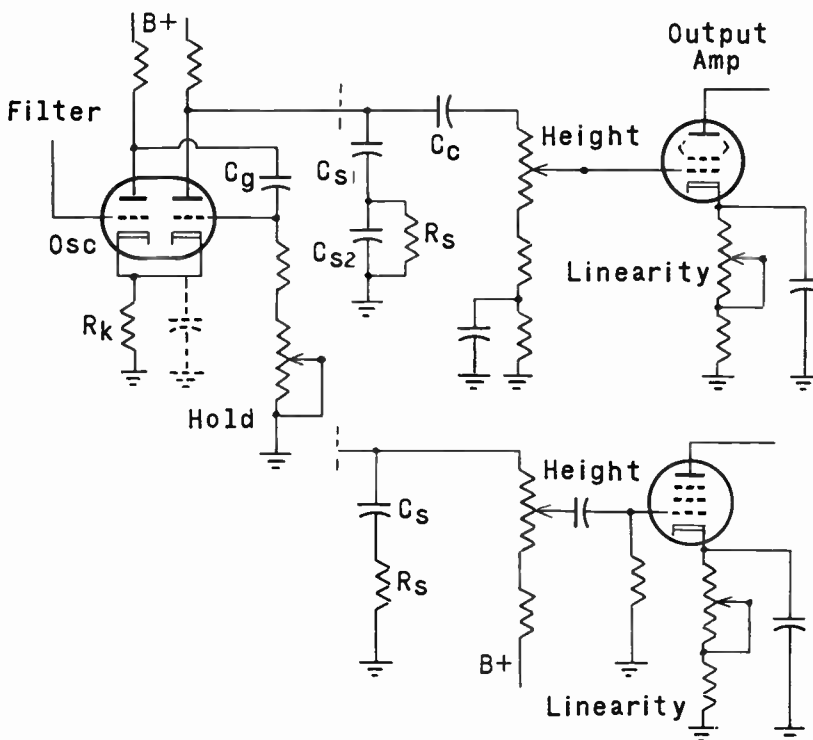
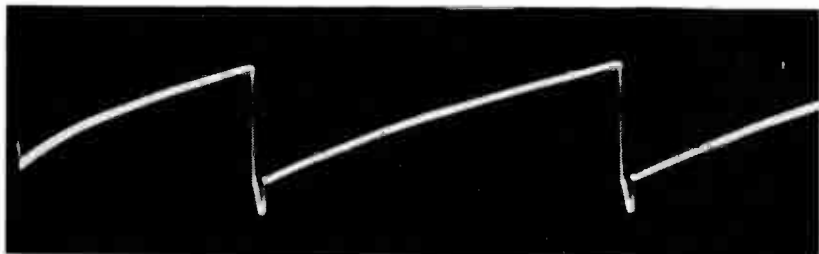

Fig. 10-10. A cathode coupled vertical multivibrator feeding to beam or pentode output amplifiers.
Fig. 10-14. Sawtooth developed at the second plate of the cathode coupled multivibrator.
Typical circuits for a cathode coupled vertical multivibrator system are illustrated by Fig. 10-10. The multivibrator consists of two triodes, usually in a single tube, which form the oscillator. The oscillator is followed by an output tube or amplifier which may be a triode, pentode or beam tube.
Height controls in Fig. 10-10 are on the grid inputs of the output tubes rather than in the oscillator plate circuits. The
At the plate of the second section of the multivibrator and at the grid of the following amplifier is the sawtooth waveform of Fig. 10-14. The sharp negative drops result from discharge of sawtooth capacitors through the second section of the multivibrator. The relatively slow rises represent recharging of the sawtooth capacitors through a B+ connection in the upper diagram of Fig. 10-10 or through the height control of the lower diagram.
Multivibrator 2nd plate and amplifier grid.	45v Fig. 10-14
2. (b) With a cathode coupled multivibrator check at the plate of the second section or output section. There should be a sawtooth, usually with negative peaking. See Fig. 10-14.